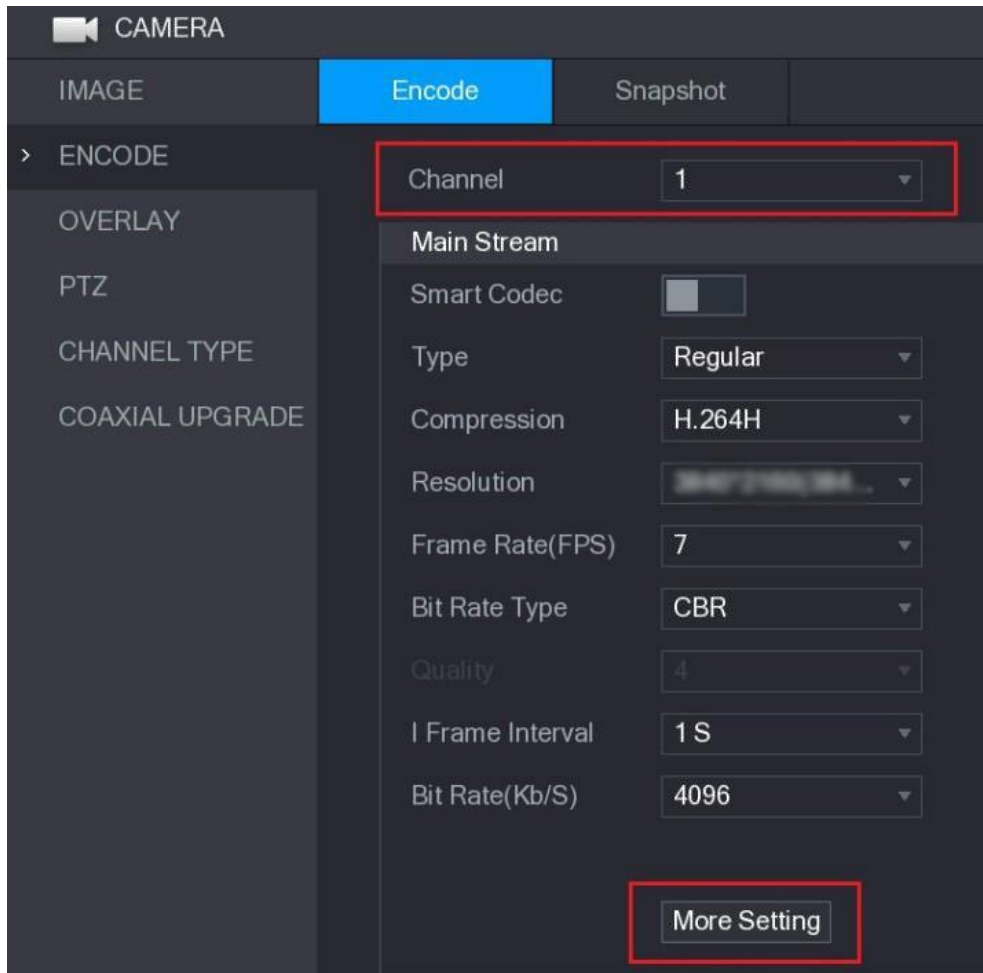

Figure 4-3
The Encode setting interface is displayed. See Figure 4-3.
Step 6 In the Encode setting interface (Figure 4-3), click **Apply**.